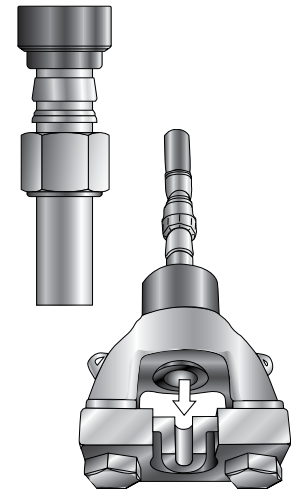

Figure 2
- Insert "U-shaped" Nut Die into the back-up plate of the Hydraulic Ram as shown in Figure 2.